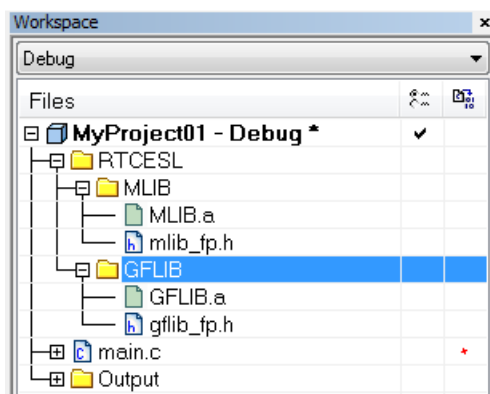

Figure 1-33. Project workspace
4. Click on the newly created node MLIB, and go to the main menu Project > Add Files... See Figure 1-33.
11. Now you will see the files added in the workspace. See Figure 1-33.